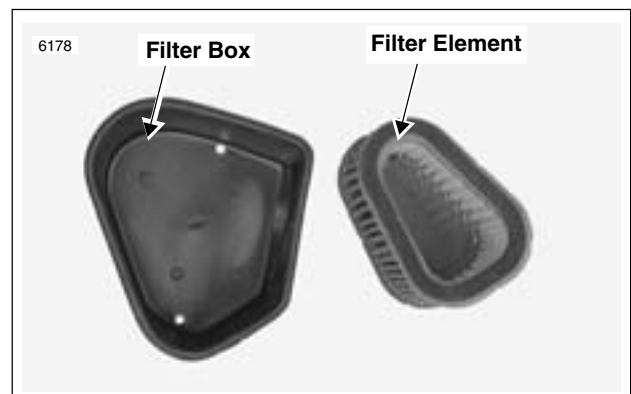

Figure 1-43. Filter Element
4. See Figure 1-43. Remove the filter element from filter box. Inspect and replace if necessary.
1. See Figure 1-43. Place filter element in filter box. Attach filter box to snorkel.